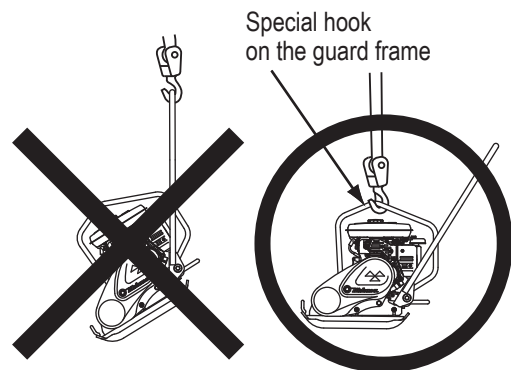

Fig. 21
3. When lifting, always use a hook. (Fig. 21) Never lift by using the hook on the handle.